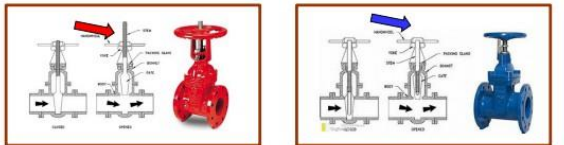

Figure 1: Rising Stem valves Figure 2: Fixed Stem valves
The tank farm used both rising stem (Fig. 1) and fixed stem valves (Fig. 2) on the dike drains leading to the storm water retention pond in the WWT area. Rising stem valves allowed operators to easily see the valve position by observing the stem above the valve wheel (red arrow). Fixed stem valves do not provide a visual indication of the position (blue arrow): The stem does not rise above the handwheel when the gate is raised. It was difficult for operators to know the actual position of the fixed stem valve on the dike drain for the tank dike without physically turning it. Poor lighting in the area made it difficult for operators to see the valve positions. For more details, see CSB Report NO. 2010.02.LPR
- There are two styles of gate valves that look similar. (Figures 1 and 2).